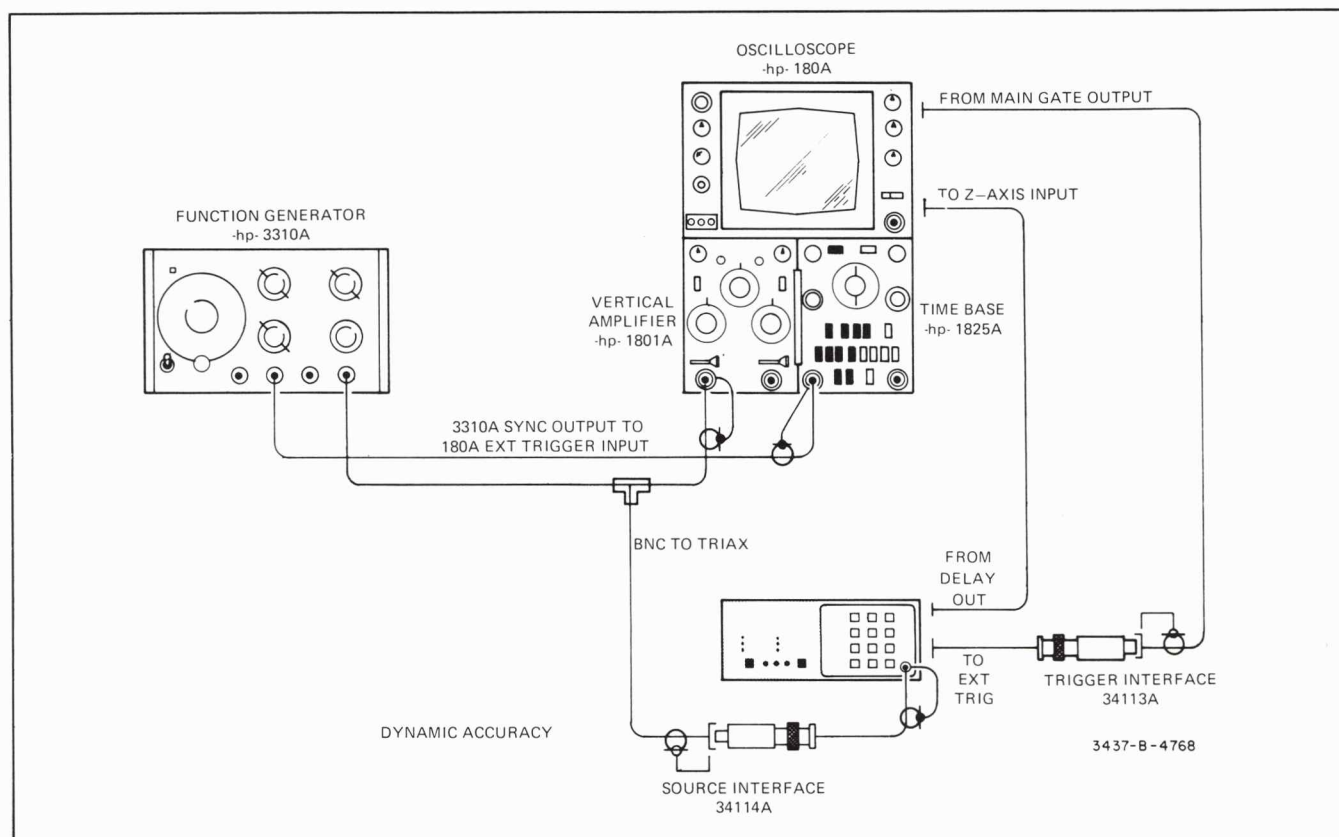

Figure 5-2. Dynamic Accuracy Test Set-Up.
- Connect the equipment as illustrated in Figure 5-2.